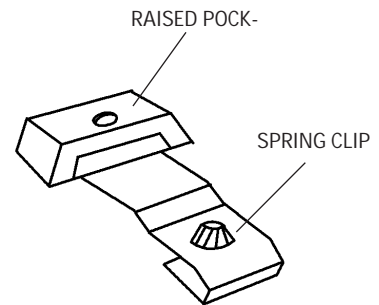

Fig. 5
1. Attach (2) SPRING CLIPS to FIXTURE HOUSING by sliding SPRING CLIPS onto (2) raised pockets on top of FIXTURE HOUSING. (Fig. 5)